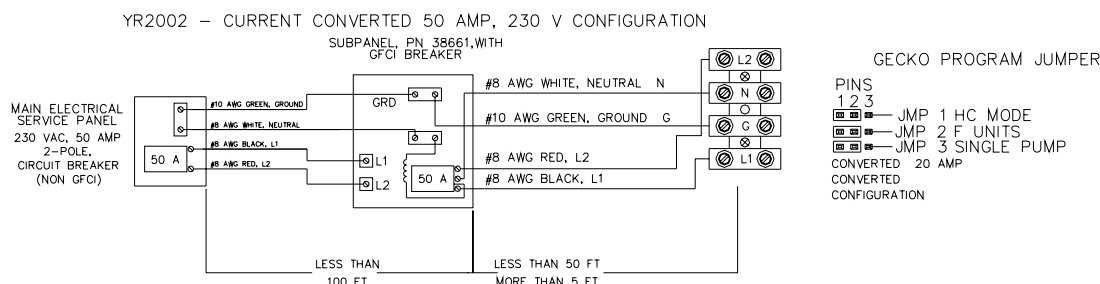

Figure 1
3. Using a pair of needle nose pliers, carefully install a jumper at location JP1 (refer to Figure 1).
Refer to Figure 1